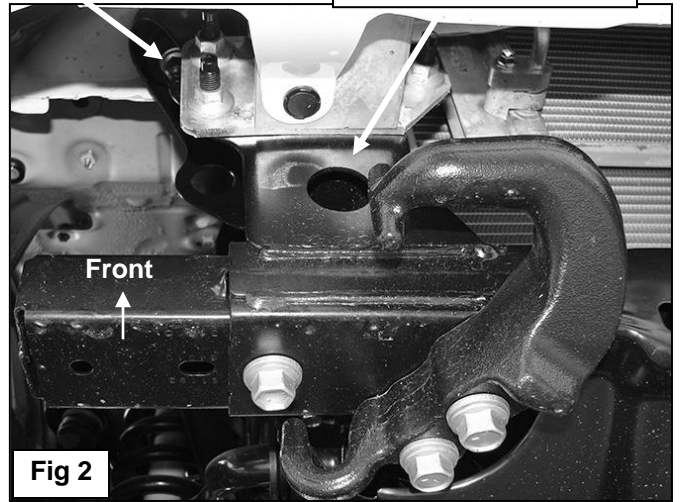

Fig 2
2. Start installation at the passenger side, front of the vehicle. Remove the (2) outer factory hex nuts attaching the aluminum bumper mount to the end of the frame, **(Figure 2)**. **NOTE:** It may be necessary to temporarily remove the factory tow hook from the passenger side.